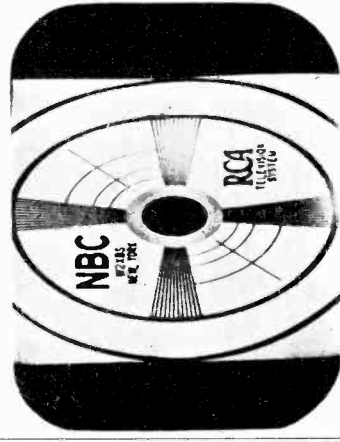

Figure 10—INCORRECT WIDTH
2. **Width.**—The text screwdriver control determines the width of the picture and is adjusted when the receiver is installed. Further adjustment may occasionally be necessary in order to compensate for the gradual reduction in horizontal deflection with tube life. See Figure 10.